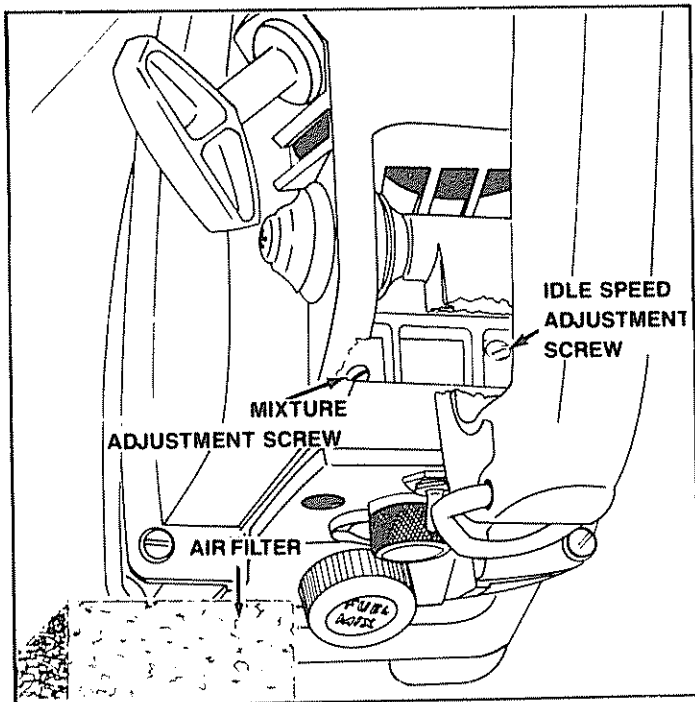

Figure 12
- 3.) Turn mixture screw clockwise  until fully closed, but **do not overtighten**. Figure 12. Unscrew mixture screw one full turn counterclockwise .